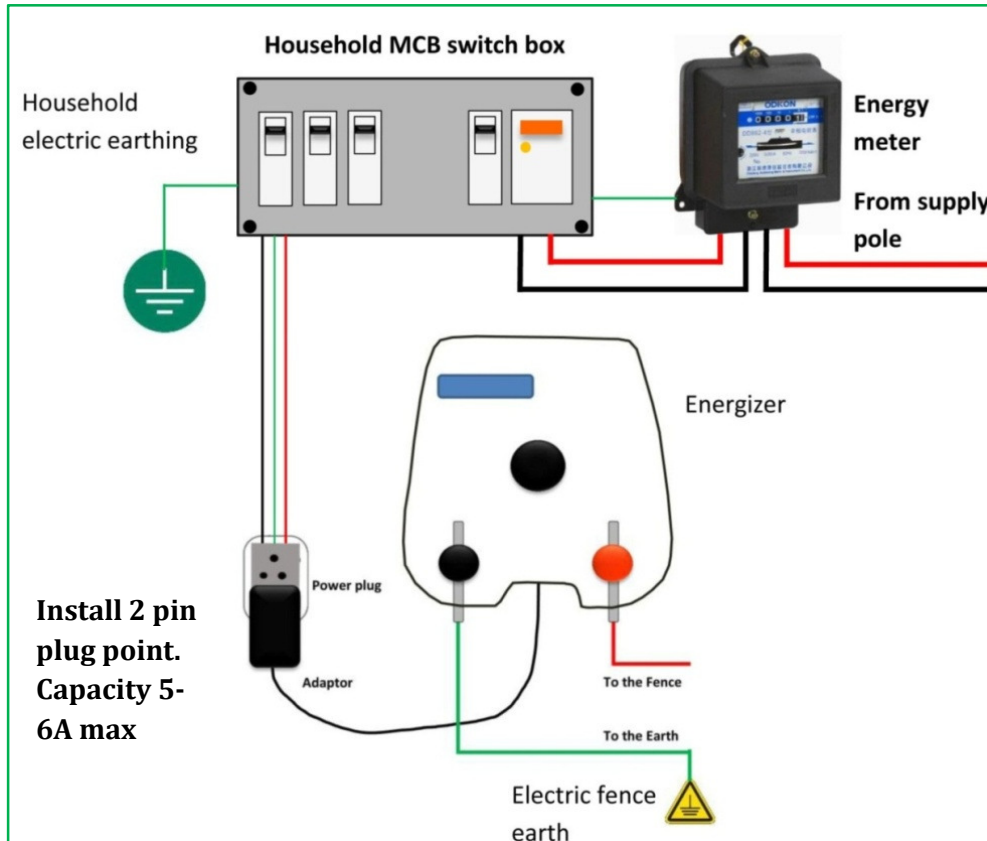

Figure18. General wiring plan for electric powered energizer
- If there is no power plug points installed on the roof attic, ask BPC personnel or authorized electrician to extend supply from the household MCB switch box to the roof attic. The general connection plan for supplying power for energizer from household power supply is given in Figure 18. Before mounting the energizer on the roof attic, make sure to read and follow all the company provided instructions for installation of the energizer.